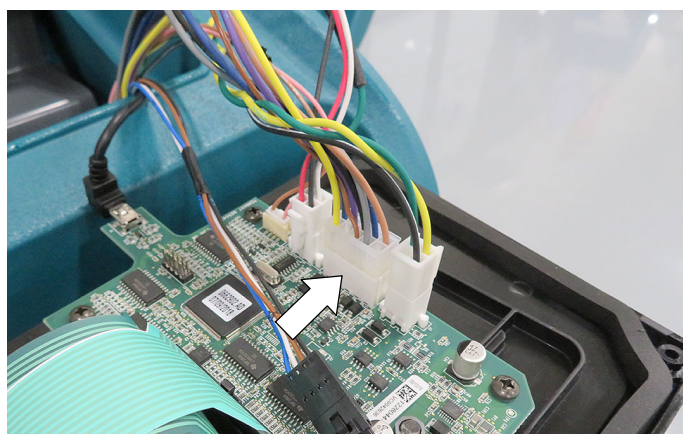

Fig. 14
9. Disconnect the center wire harness connector from the panel (Figure 14).